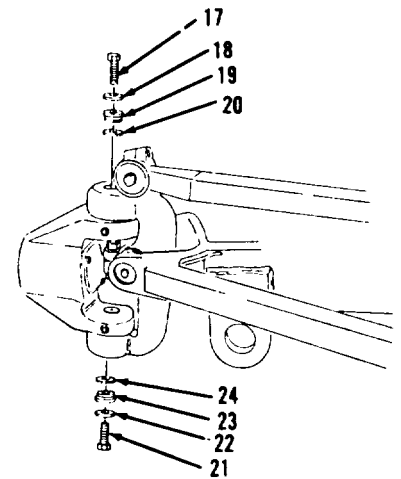
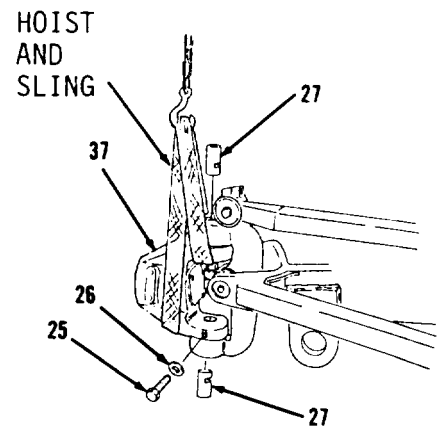

Figure 5-76.
Figure 5-77.
16. Tap nut (14) with hammer to loosen socket assembly (15) from its taper and remove nut (14).
17. Move socket assembly (15) away from housing (37).
18. Remove washer (16).
19. Remove bolt (17), washer (18) and retainer (19, Figure 5-76).
20. Using suitable puller, remove ring (20) from retainer (19).
21. Remove bolt (21), washer (22) and retainer (23).
22. Using suitable puller, remove ring (24) from retainer (23).
23. Remove two bolts (25) and washers (26, Figure 5-77).
8. Lower temperature of two pins (27, Figure 5-77) to aid in installation.
9. Using assembled puller assembly, pump group, legs (2), puller assembly, bearing puller assembly and six spacers, install two pins (27). Make sure grooves in two pins (27) are in alignment with openings in housing (37).
10. Install two washers (26) and bolts (25).
12. Install ring (24, Figure 5-76).
13. Using suitable driver, install retainer (23), washer (22) and bolt (21).
14. Install ring (20).
15. Install retainer (19), washer (18) and bolt (17).